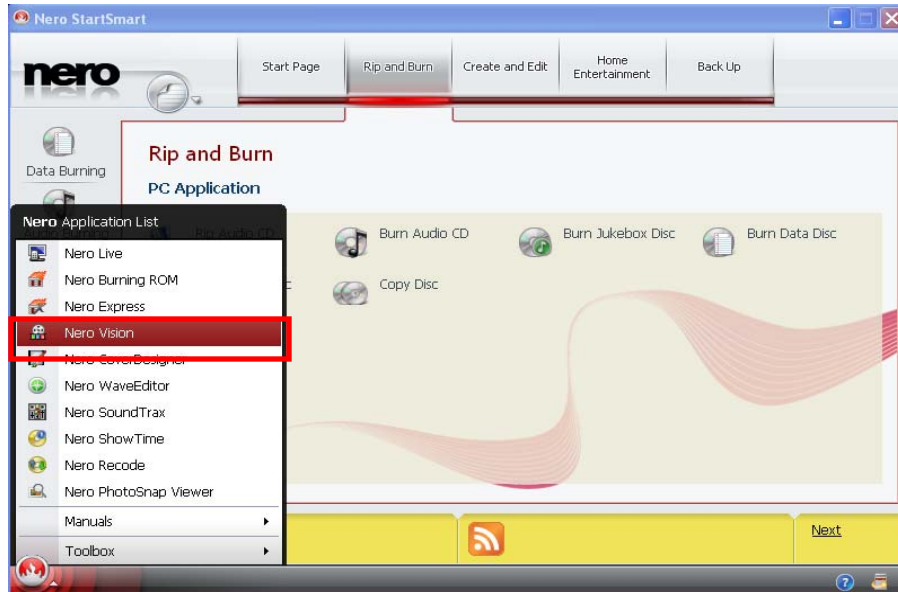

Figure 164. AAR – Select Nero Vision
2. From the Nero Start Smart window, click on the Nero icon at the bottom left, and select [NERO VISION] from the Nero Application List (Figure 164).